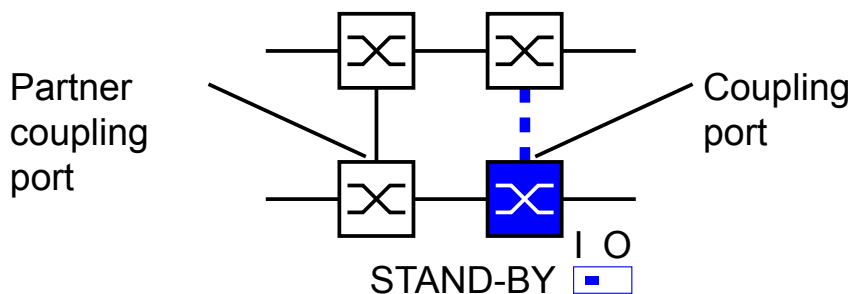

Figure 47: Two-Switch coupling
- Select two-Switch redundant coupling (see fig. 47).